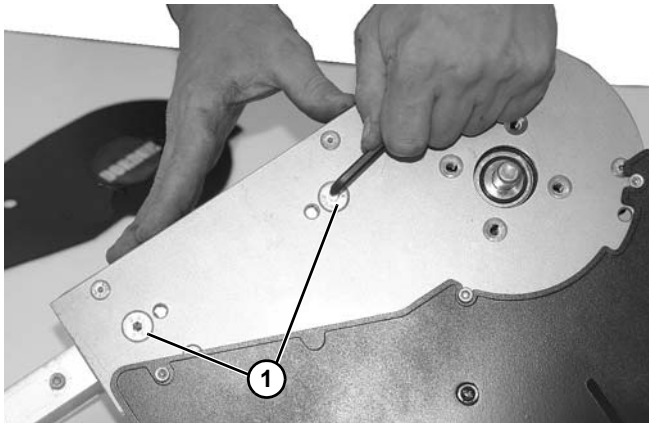

Figure 126
5. Remove two screws (**Figure 126, item 1**) on side of drive spindle.